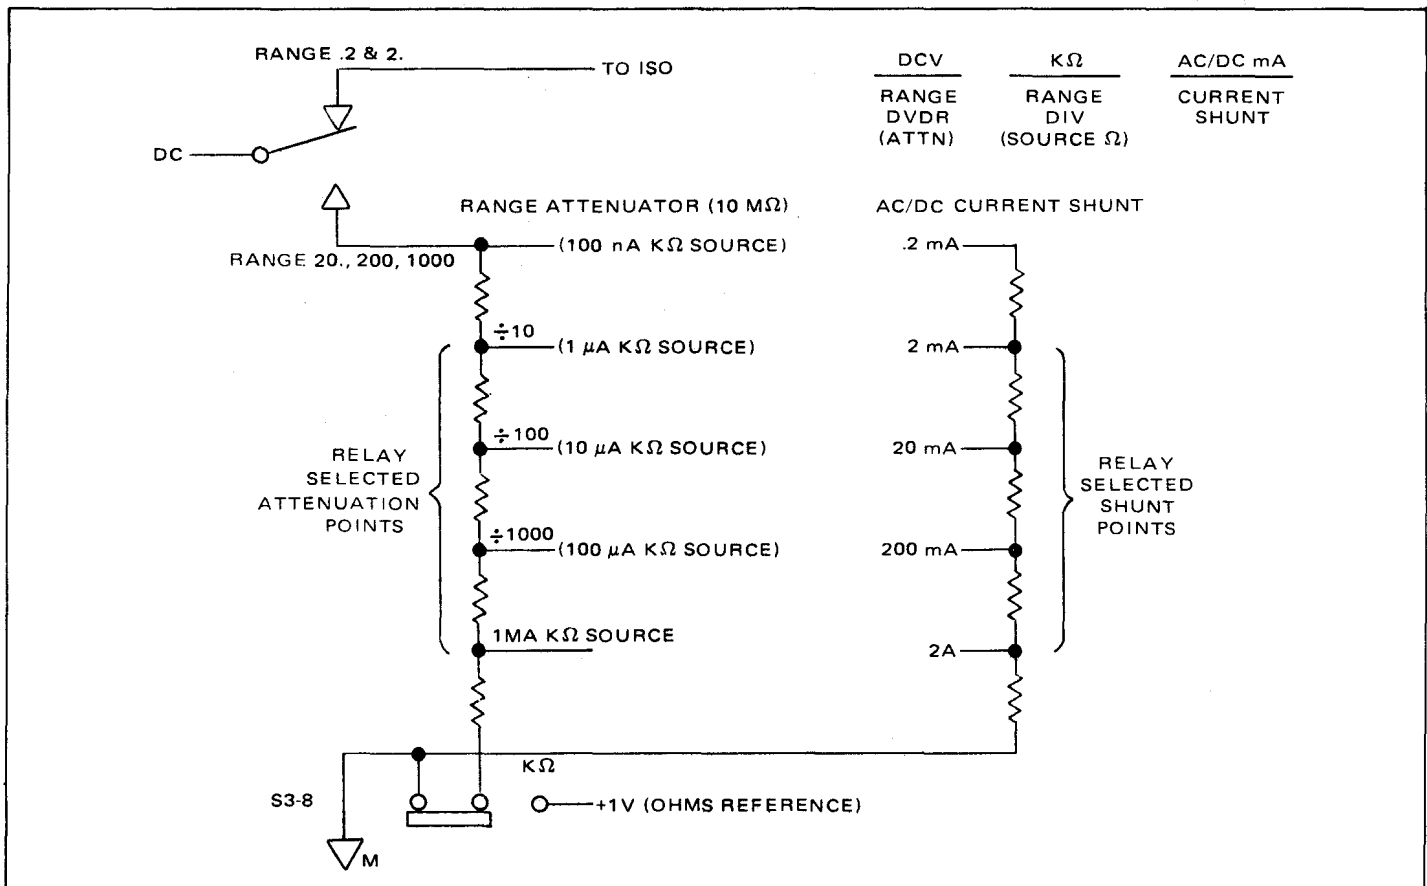

Figure 4.5 - Voltage Attenuator and Current Shunt
4.14 *Voltage Attenuator and Current Shunt.* This circuit is shown in simplified form in figure 4.5. The attenuator and shunt circuit performs the following functions; 1) attenuation of input measurement voltages on the 20, 200, and 1000 volt dc ranges, 2) scales down the ohms current source when the instrument is on the Kohms ranges, 3) acts as a shunt when on the ac or dc current ranges, and 4) the attenuator and shunt circuit contains two series resistance strings with pick-off points selected by range relays. In figure 4.5 the left-hand resistance string is the voltage range attenuator and ohms current source divider. The right-hand resistance string serves as the ac and dc current shunt, and also has pick-off points selected by range relays. In the upper left-hand corner of figure 4.5 note that the dc measurement signal is switched around the attenuator on the low ranges and goes directly to the isolator. On the 20, 200, and 1000 volt ranges the dc measurement signal is switched onto the top of the range
4.16 When the instrument is used to measure resistance, S3, in the lower left corner of figure 4.5, is switched to the Kohm position and the range relays pickoff the appropriate point to apply, as a current source, to the input of the ohms amplifier. Configuration of the attenuator and shunt is thus accomplished by accommodation of the function control setting and the state-of-the-range relays.